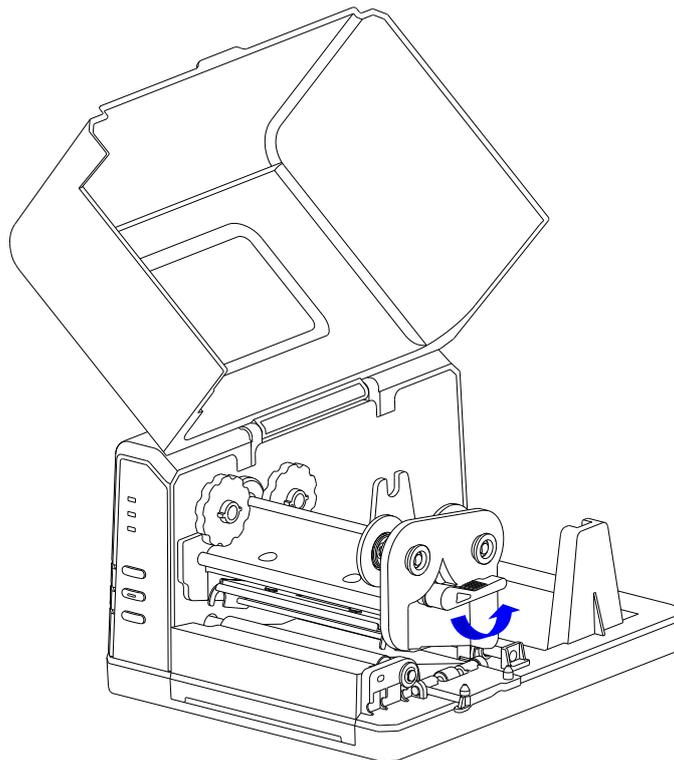

Figure 2-4 Open the Flip Fastener
1. Lift the right cover of the printer and turn the handle to the “open” position. Open the Flip Fastener downwards, as shown in Figure 2-4.